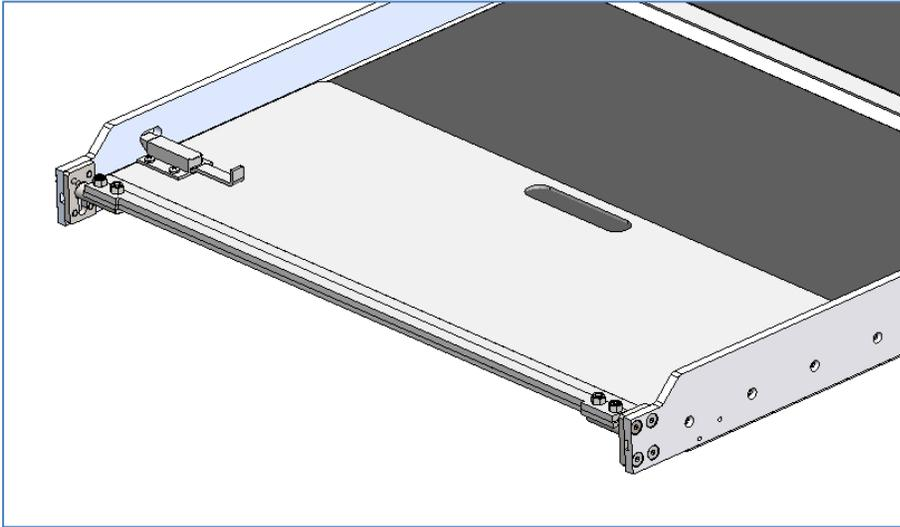

Figure 16
- 11) Perform a quick functional test on the lift by stowing the outer barrier and press the UP push button. Then release the UP push button and press the DOWN push button. See Figure 16. The platform should not move in both cases.